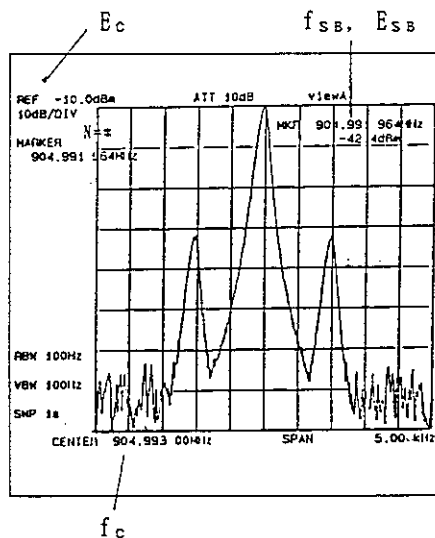

Figure 5-24 Finding the Small FM Modulation Index m
- ① Set the center frequency and the frequency span for easy viewing and adjust the carrier frequency to the reference level.
- ③ Read the carrier frequency  $f_c$  from the center frequency readout and carrier level  $E_C$  from the reference level readout. (Figure 5-24)
- ④ Set the marker on the first sideband, and read the frequency  $f_{SB}$  and level  $E_{SB}$  from the  $\Delta$  marker indication. (Figure 5-24)